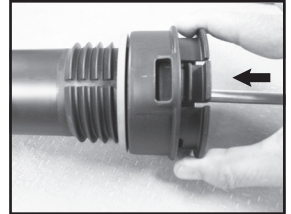

Figure 5
5. Insert the pump handle assembly into the barrel. Align the tabs of the pump cap with the rectangle cutouts on the barrel. Push cap into place until the cap snaps securely into position. (See Figure 5)